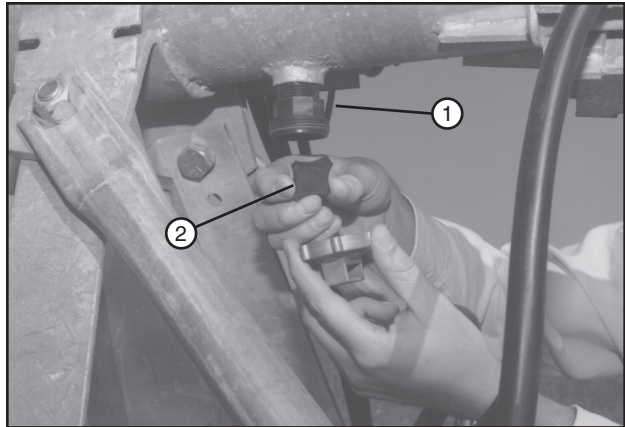

Figure 104-1 1. Pipe Drain
3. Remove the pipe drains at each drive unit tower. Clean sand and foreign particles from these drains. Turn the rubber drain seal over when reinstalling. See figure 104-1.